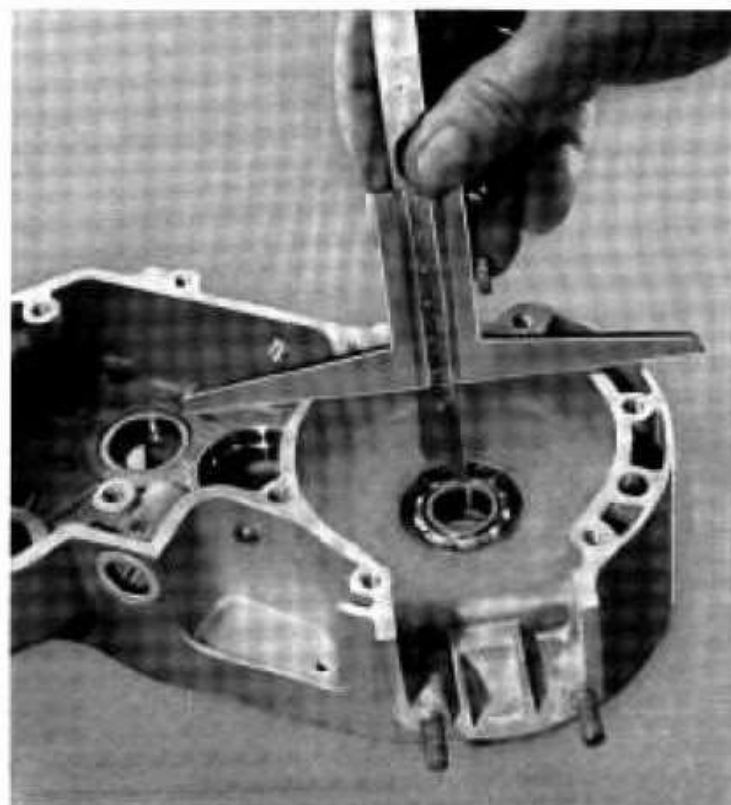

Fig. 37
- 4.32 Measuring the two housing sections for the installation of the crankshaft. (Fig. 37)